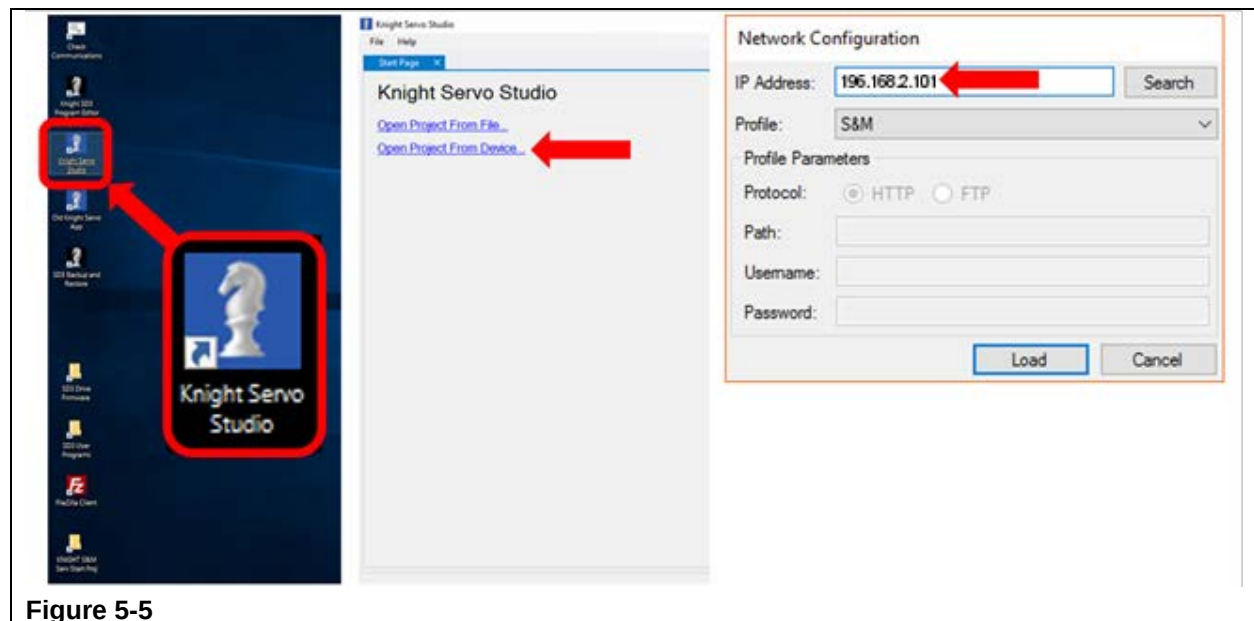

Figure 5-5
- Step 3. Double click on the blue Knight Servo Studio software icon located on the desktop and allow the Knight Servo Studio software to load. (Refer to Figure 5-5)
(Refer to Figure 5-5)